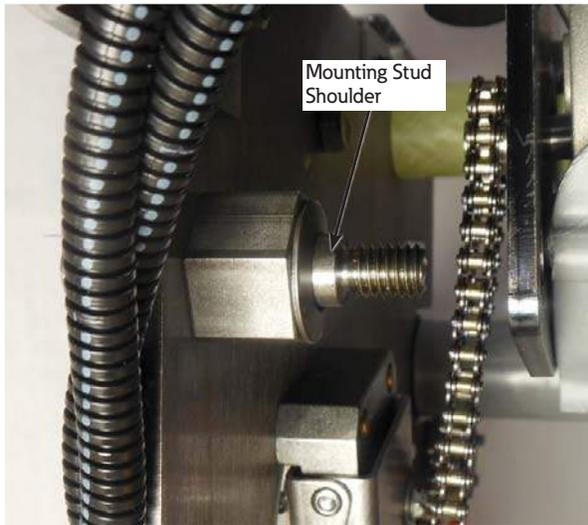

**Figure 115. Belleville washer on the motor mounting stud**
- Ensure that the Belleville washer is installed over the motor-mount stud with the cupped side facing in. See Figure 115.